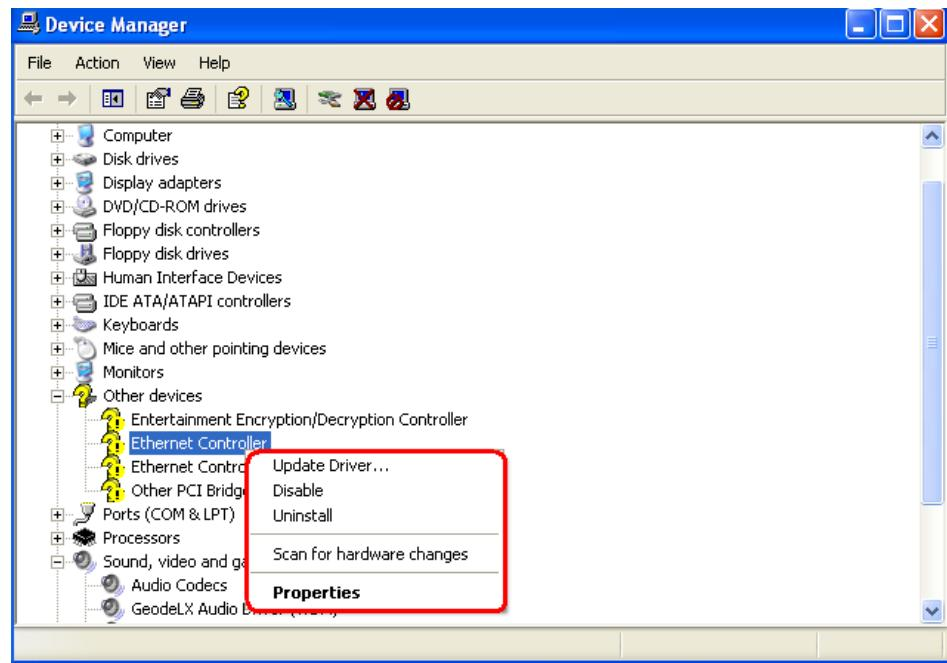

Figure 7-26: Update Ethernet Driver Selection
Step 46: The small window in **Figure 7-26** appears.
Step 47: Select the **UPDATE DRIVER** option in the small window shown in **Figure 7-26**.